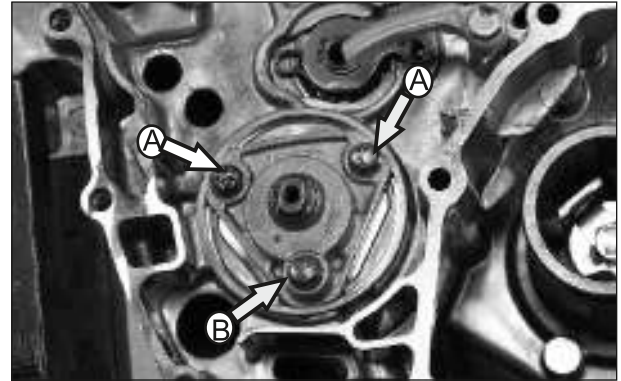

Fig. 3.31
- Loosen and remove 2 nos. M6X16 hexagonal flange bolt.(A) (Fig. 3.31)
- Loosen and remove 1 no. M6X25 hexagonal flange bolt (B) (Fig. 3.31)